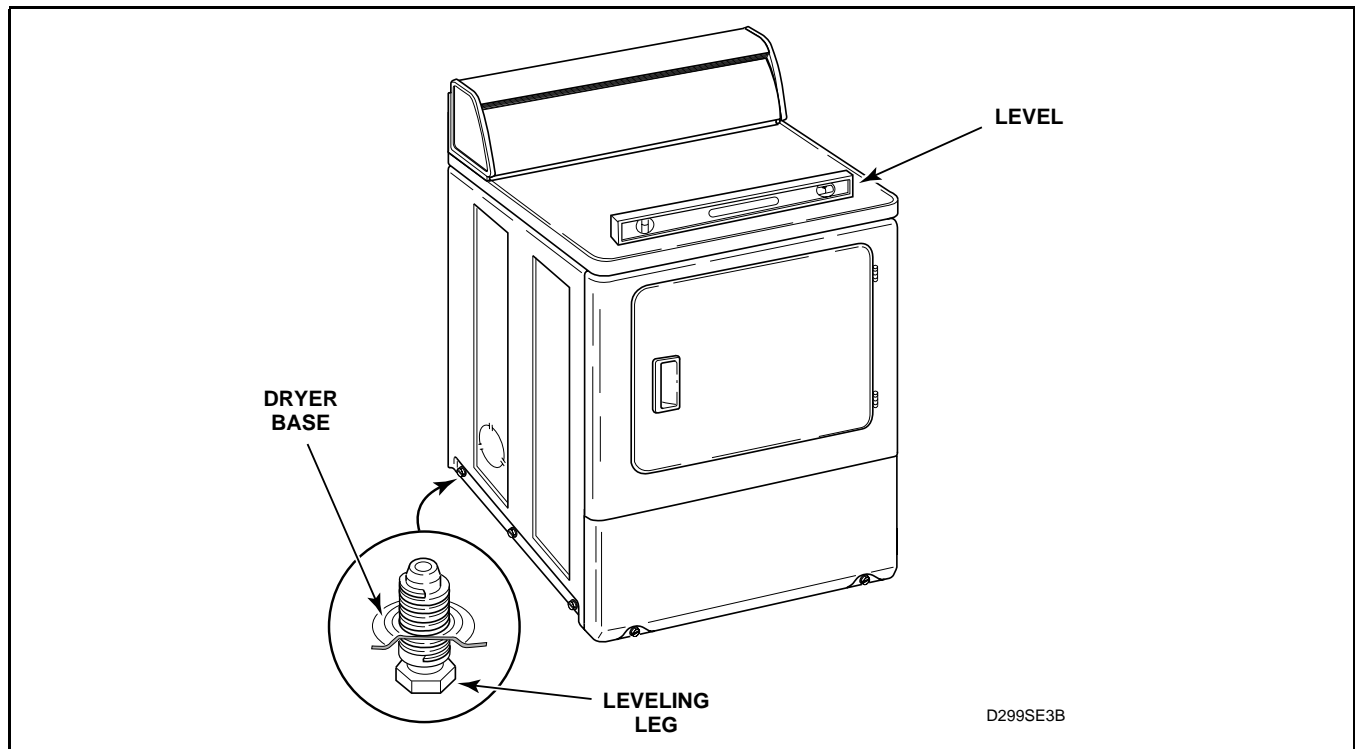

Figure 35
- p. Remove leveling legs from base and reinstall on new base. See *Figure 35*.
(Figure 35)